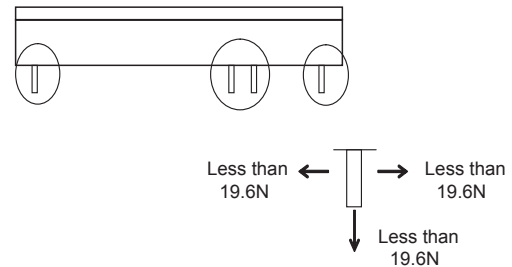

Fig.6.1 Stress onto the pins
- When too much stress is applied to the pins of the power supply, the internal connection may be weakened. As shown in Fig.6.1 avoid applying stress of more than 19.6N (2kgf) on the pins.